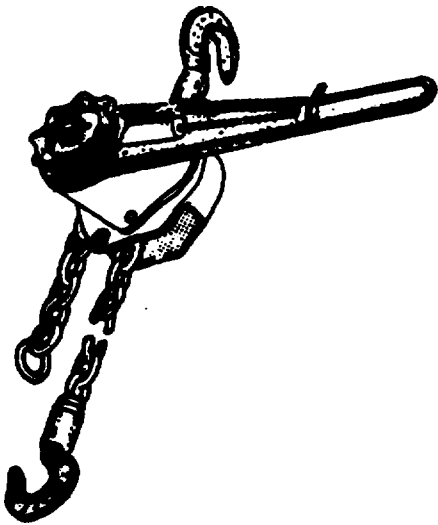

Fig. 7-1f Come-along
- f Come-alongs are designed with either chain or wire rope. They are normally light in weight and come in a variety of sizes. Come-alongs are reversible so the load may be raised or lowered (See **Figure 7-1f.**)